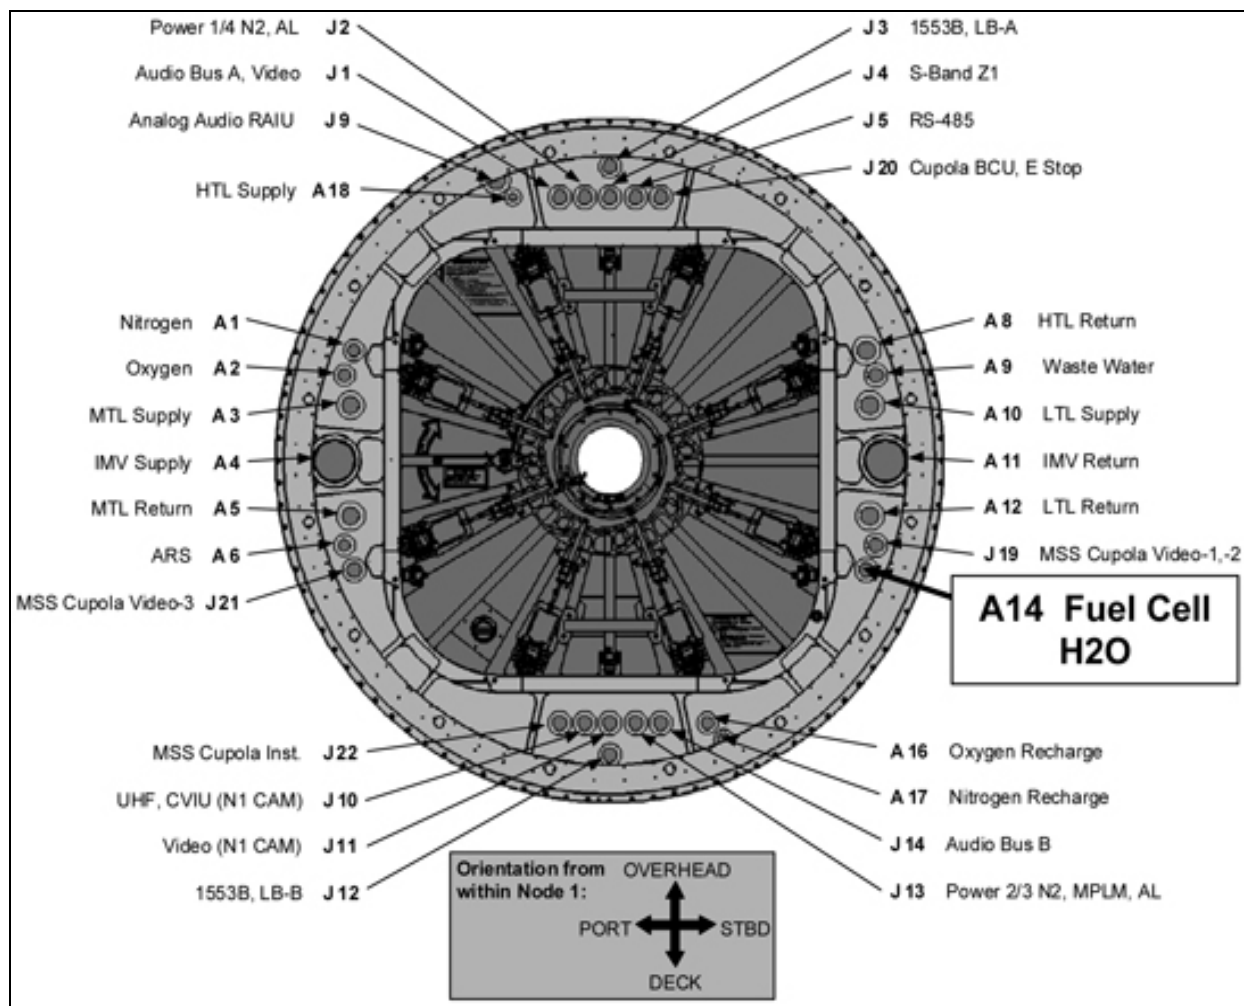

Figure 1.- LAB1 Aft Bulkhead Interior Location of Feedthroughs. (Orientation from Within Node 1 Looking Forward.)
- 1.6 Locate feedthrough labeled A14 Fuel Cell H2O on starboard side of LAB Aft Bulkhead, follow length of Node 1 to Element Fluid Jumper (P/N 683-13870-7) to QD labeled M/W A14 N1. Verify disconnected from Node 1 and capped. Refer to Figure 1 for connection point of mated end on LAB Aft.